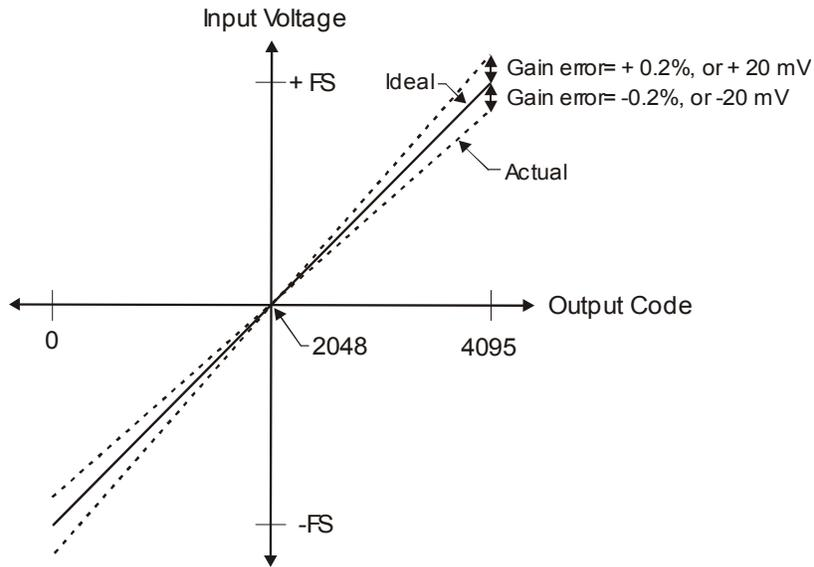

Figure 3-11. ADC Transfer function with gain error
Gain error is a change in the slope of the transfer function from the ideal, and is typically expressed as a percentage of full-scale. Figure 3-11 shows the 18200-10 transfer function with gain error. Gain error is easily converted to voltage by multiplying the full-scale (FS) input by the error.
The accuracy plots in Figure 3-11 are drawn for clarity and are not drawn to scale.